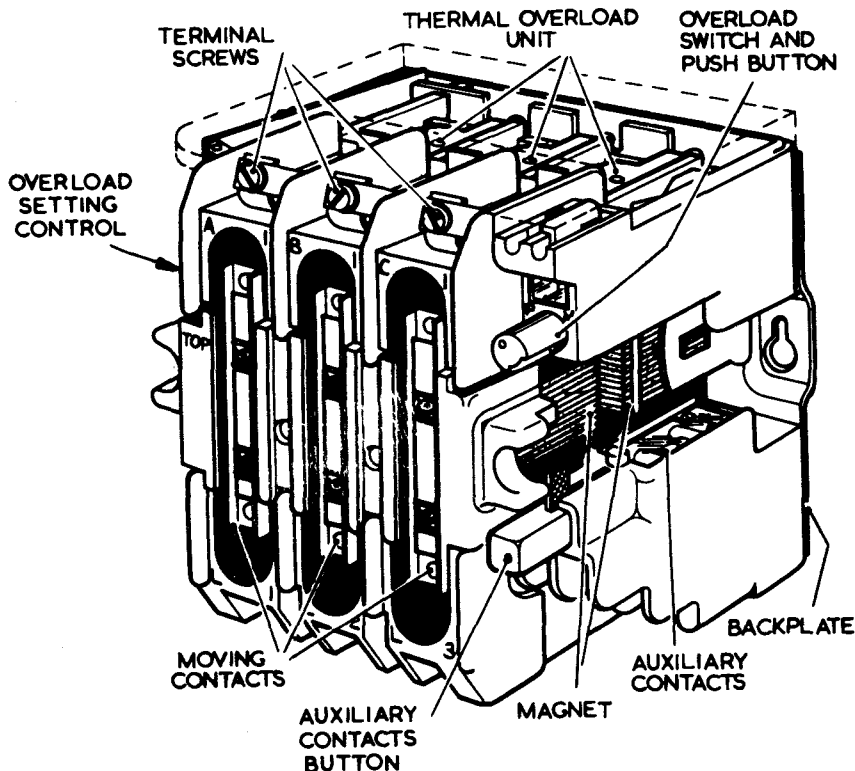

Fig.2 Contactor: general view
5. The twelve contactors mounted on the front of the assembly are identical in construction (fig.2) and have three pairs of contacts, which close when the contactor coil is energized by a single-phase supply. Eight of the contactors incorporate thermal overloads in each of the three switched lines. The 240V a.c. supply to the contactor coil is fed via the normally closed overload